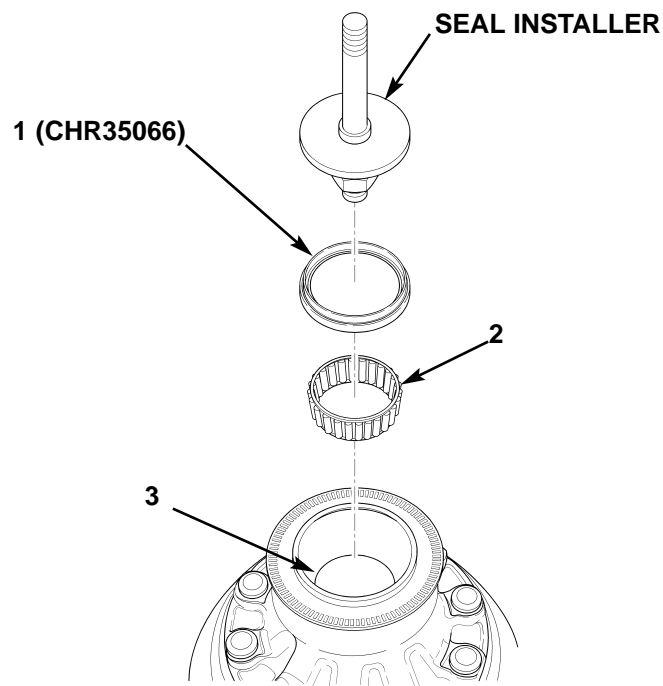

Figure 28. Installing Inner Bearing Cone and Seal.
21. Apply grease to inner bearing cone (figure 28, item 2), and set inner bearing cone (figure 28, item 2) on inner cup of front hub (figure 28, item 3).
22. Apply sealant to outside edge of new seal (figure 28, item 1), and position seal (figure 28, item 1) on front hub (figure 28, item 3) with tapered side of seal facing up.
23. Using seal installer, drive seal (figure 28, item 1) into shoulder bore of front hub (figure 28, item 3) until fully seated.